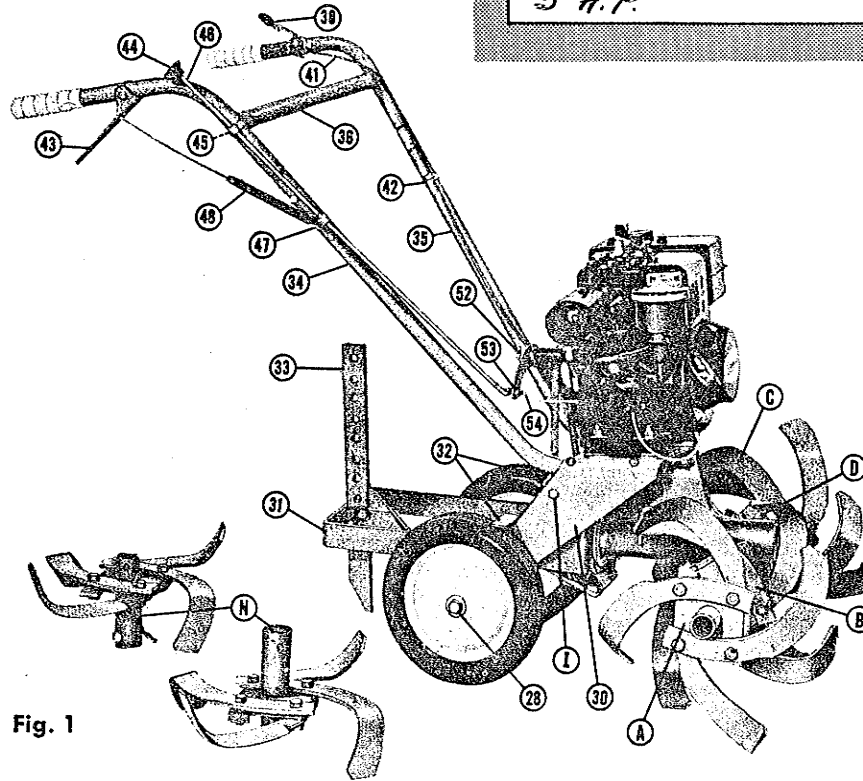
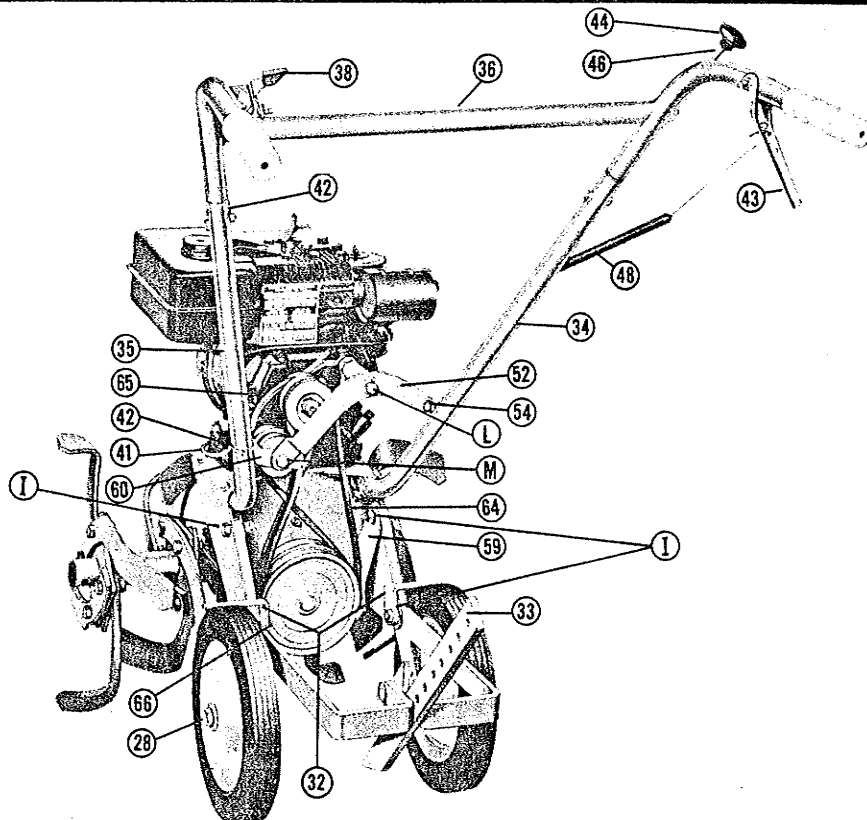

Fig. 1
Fig. 2
Figure 1 and figure 2 show the tiller completely assembled. Also refer to the exploded view on page 4 for proper assembly.
2. Secure the wheel axle bolt to the frame assembly with the second nut (J). You will find two holes for the wheel axle bolt in the frame assembly. Use either hole for the handle height adjustment — upper hole provides lower handle height, low hole — higher height.
4. Install mud scrapers (32) to inside of rear frame assembly as shown in Fig. 2. Position them so that there will be approximately 1/4" clearance between tire and scraper.
1. Uncoil the throttle cable (41), wire, and lever (38) from the engine and string under the blower housing, under the fuel tank and on top of left handle.
2. Install the clips (42) at locations shown in the photographs, Fig. 1 and Fig. 2.
1. To remove the belts, remove the cotter pin (L) holding the idler lever on the engine stud. This will allow the idler lever to move out. Loosen the nut (M) holding the belt retainer (60) on the idler pulley. Loosen the top screws on both sides of the engine bracket which hold the belt guards (59) on the lower pulleys so that the belt guards can be moved outward which will facilitate removing the belts from around the lower pulleys.
2. Remove the forward drive belt (64). After this belt has been removed you will be able to remove the reverse drive belt (65).
4. Reset the belt retainer (60) on the idler pulley to original angular position, as shown in Fig. 2. **This adjustment is very important.** Tighten the nut so that the belt retainer is secure. Reinstall the idler lever and idler lever spring, being sure to put 1½ turns on the spring. Hook the spring under the engine pulley belt stop and under the idler lever. NOTE: This adjustment is very important as it allows the idler lever to float without pressure being exerted on either of the drive belts when idling. Reinsert the cotter pin.